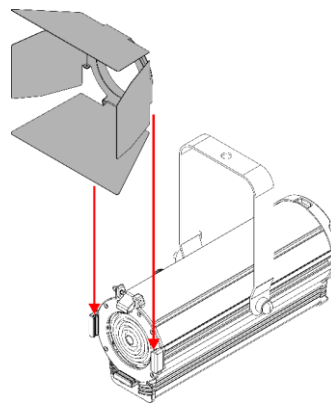

Fig. 11
- 02) Insert the barndoor into the **color frame holders (05)** (see Fig. 11).